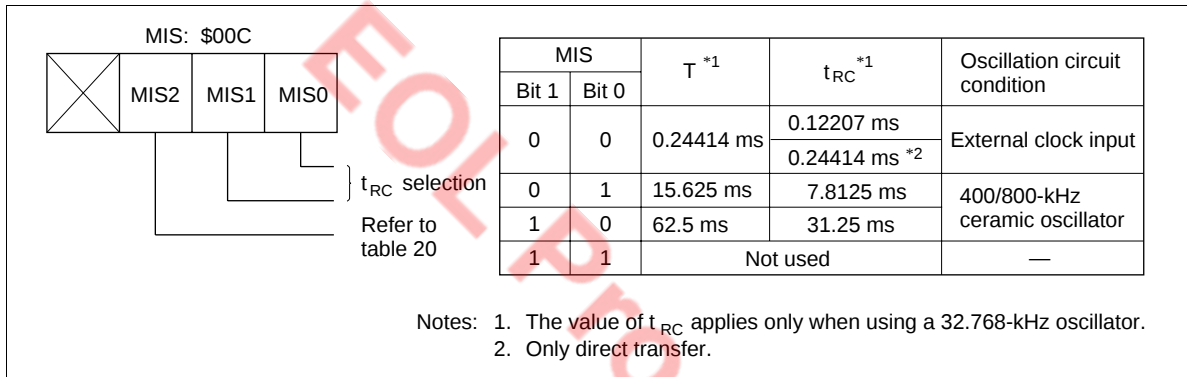

Figure 14 Miscellaneous Register
Interrupt Frame: In watch and subactive modes, $\emptyset_{CLK}$ is supplied for timer A and the $\overline{INT}_0$ circuit. Prescaler W and timer A operate as time bases to generate interrupt frame timing. Three interrupt frame cycles (T) can be selected by the settings of the miscellaneous register, as shown in figure 14.